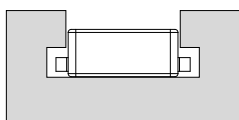

Fig 1.1 - Miter Stop in miter slot
- 1.1 Slide the Miter Stop into the miter slot with the tabs along the bottom edge fitted into the "T" section of the slot [Fig 1.1, Fig 1a].
- 2.5** Slide the Miter Stop into the miter slot [Fig 1.1] with the block or jig above the table surface.